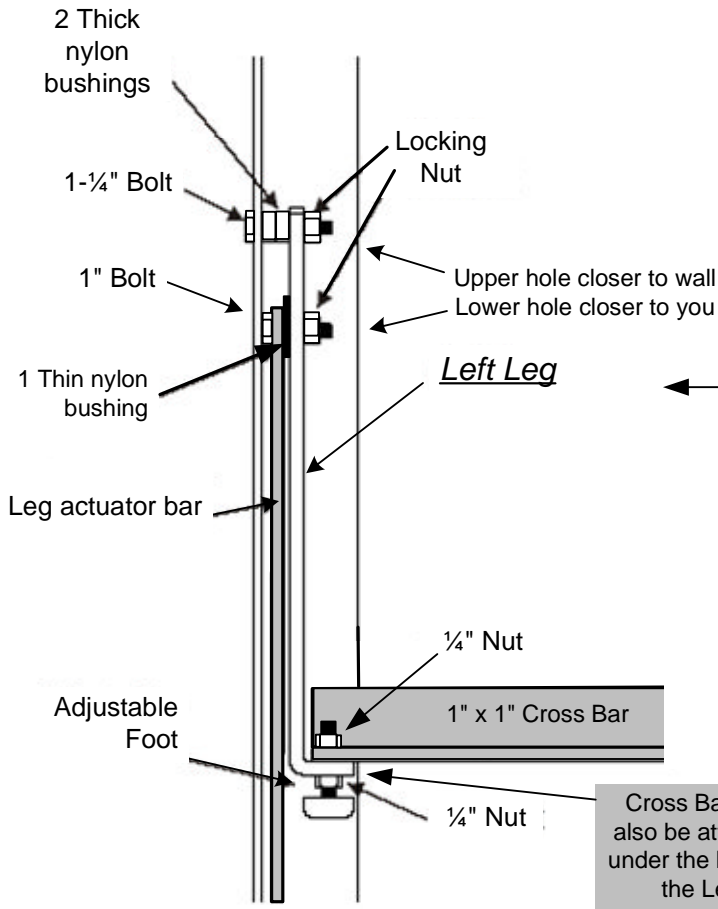

Figure 6
15. Attach Left and Right Legs to Side Rails of frame and snug tighten. Figure 6.
16. Attach remaining 1" x 1" Cross Bar to bent end of Legs using Adjustable Foot as shown in Figure 6.
17. Attach one end of Leg Actuator Bars - M (flat bars with rounded ends) to leg assemblies as shown in Figure 6 and snug tighten.